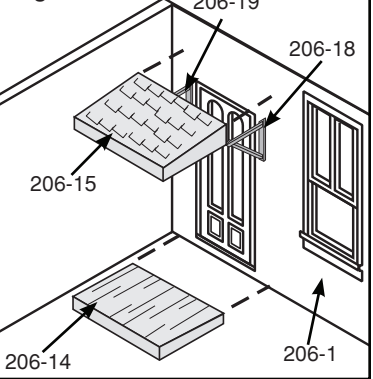

Fig. 4
**Install Electric Meter:** Trim Electric Meter 206-22 wire conduit to fit as needed. Glue Electric Meter 206-22 to Wall 206-6 (Fig. 4).